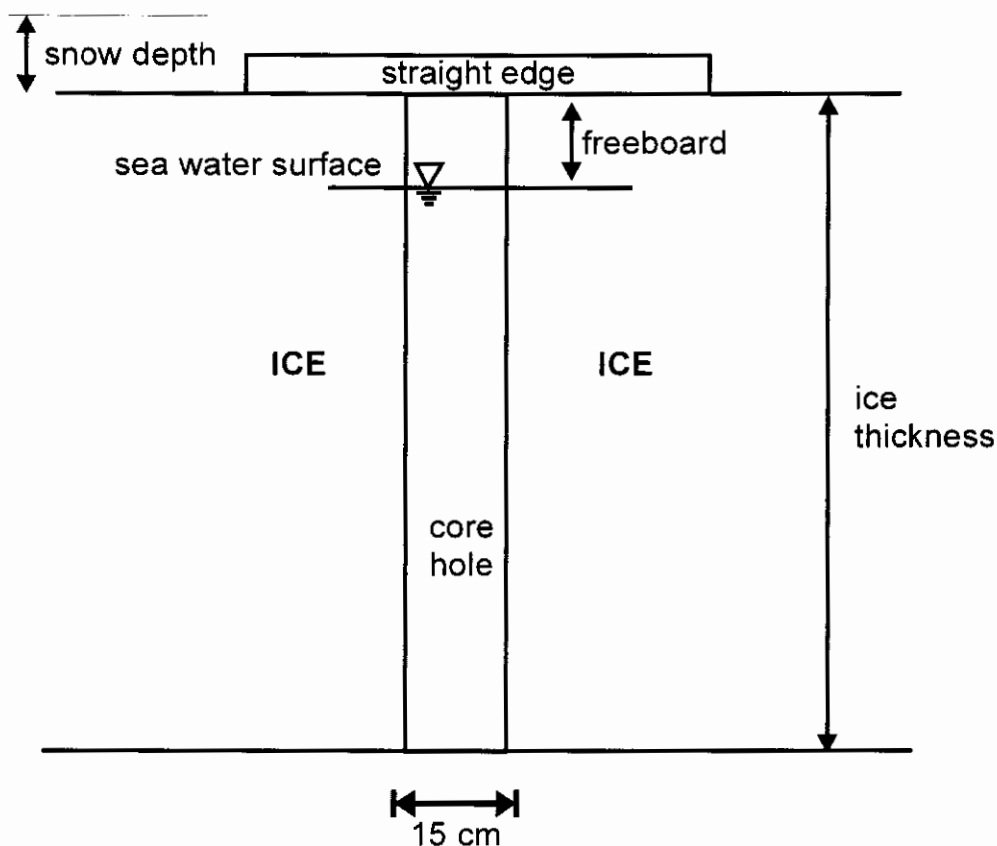

Figure 1 Measurements of Ice Thickness, Freeboard and Snow Depth
- 3) Three holes will be drilled 1.5 to 2 m apart in a circular pattern. At each hole ice thickness, freeboard and snow depth are to be measured (Figure 1) and recorded on Data Sheet (see page 7). Use wooden straight edge across hole to get precise measure of freeboard.